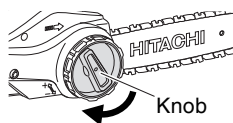

Fig. 9
- (3) Rotate the knob once to temporarily fix it. (Fig. 9)